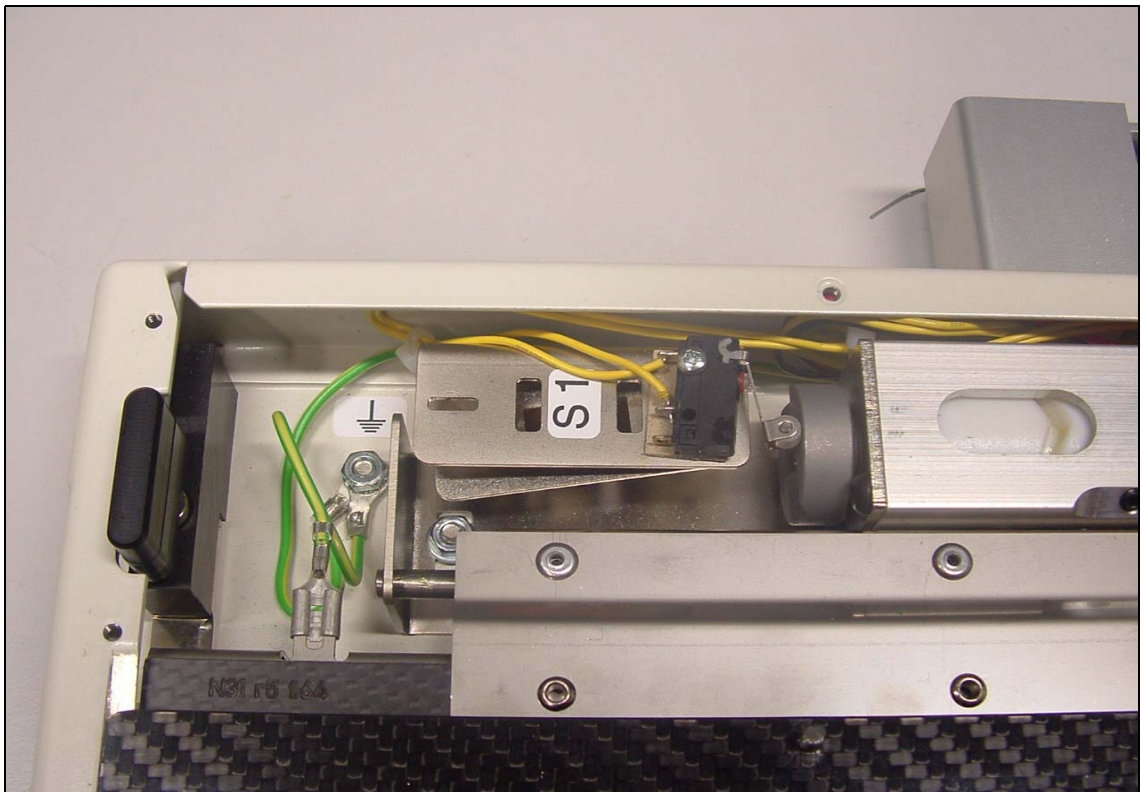

Fig. 3
- Assemble the supplied switch, insulation plate and the fastening plate according to Figure 3. The fastening plate is below the holding bracket with press nuts pointing down, the insulation plate and the switch itself are on the top of the holding bracket.
- Having performed the mechanical positioning correctly the electrical switching operation has to be tested and verified. In order to perform this re-attach and solder the leads to the switch S1, (recal the first work step and the Figure 3).